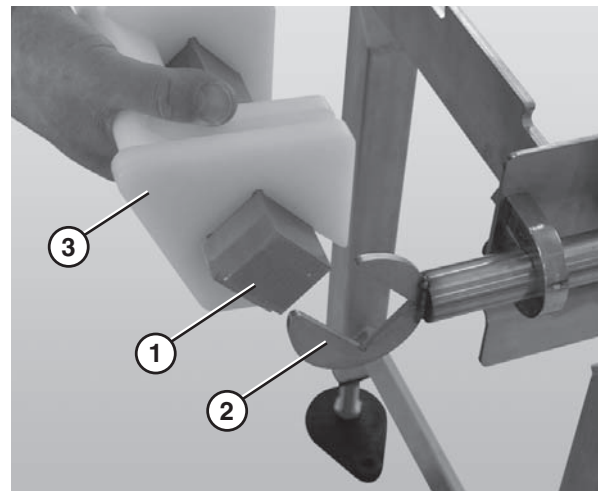

**Figure 64**
- Remove pinch guard (**Figure 64, item 1**) from idler shaft (**Figure 64, item 2**) and pinch guard shaft (**Figure 64, item 3**).
- Slide the pucks (**Figure 64, item 4**) and alignment bar (**Figure 64, item 5**) off the idler shaft (**Figure 64, item 2**).